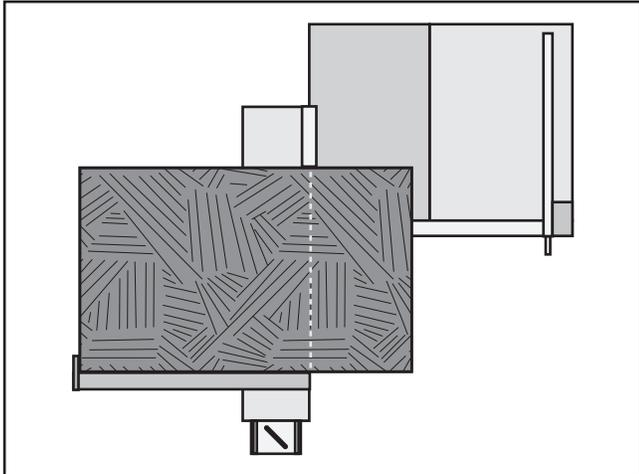

Figure 53. Crosscutting with miter fence in the forward position.
The Model G0700 can crosscut with the fence in the forward or rear position, although it is easier to load large workpieces with the miter fence mounted in the forward position (see **Figure 53**).
1. Install the miter fence in either of the two positions shown in **Figures 53–54**.